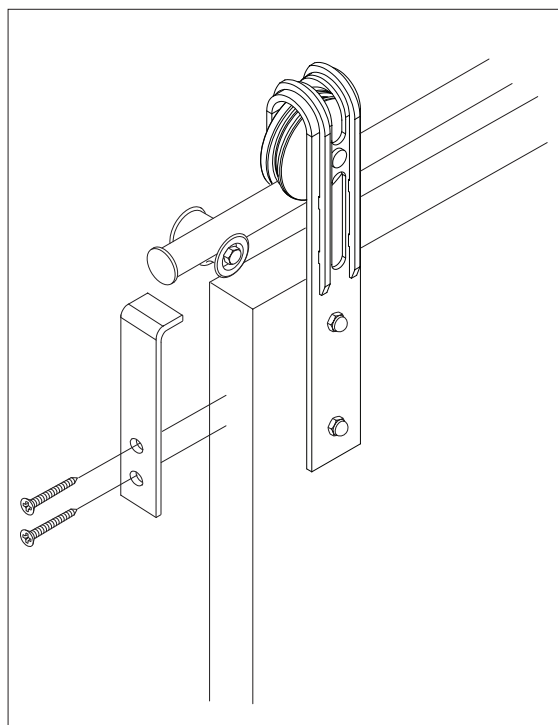

Figure 9
18. Install the bracket to the door edge with 2 phillips screws (provided) using a drill with a phillips bit (Figure 9).